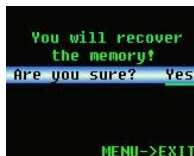
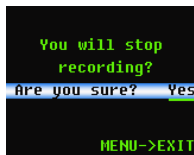

Figure 11.
Figure 12.
**a.** In the main menu interface, press the "up button" or "down button" to select "Record", then press the "left button" or "right button" again to enter the dialog box of Figure 11 or finger 12. If it is not in recording state, will come into Figure 11; if it is in recording state, will come into Figure 12.
**b.** In the status shown in Figure 11, press "left button" or "right button" can change the setting of the item, then press "menu button" to exit the status in Figure 11, and perform setting. YES for starting recording, NO for do not recording.
**c.** In the status shown in Figure 12, press "left button" or "right button" can change the setting, press "menu button" will exit the Figure 12, and perform setting. YES for stopping recording, NO